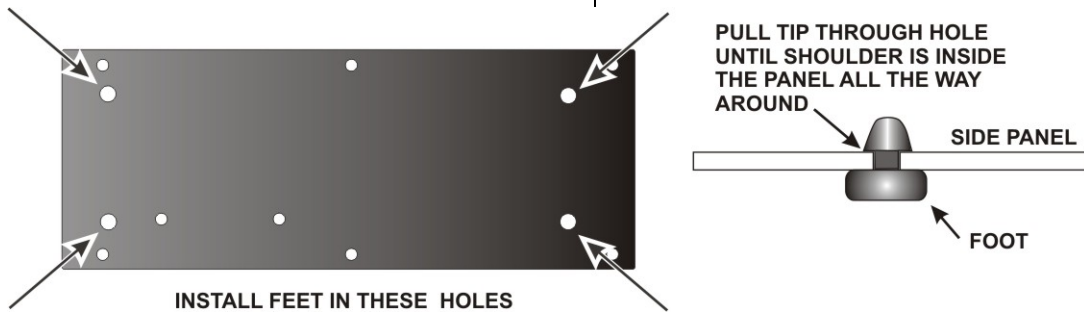

Figure 21. Installing Side Panel Feet.
- Locate the two side panels. They are approximately 4" (10 cm) by 9-7/8" (25 cm) in size. Both panels have six counter-sunk screw holes near the edges. Note that the countersunk holes are farther from one end than the other. This is important. You will need to orient the panels correctly as you install them. The side panels are different as well. In addition to the six counter-sunk screw holes, the left side panel has two holes near the centerline for attaching the handle and three larger counter-sunk holes near the top edge. The left side panel with the handle attached is shown in Figure 16. The right side panel has six additional holes; four for mounting the side feet and two for attaching other parts inside the K3 (see Figure 21). Set the right side panel aside for now.
□ Install the four rubber side feet in the holes in the right side panel as shown in Figure 21. Two suggested procedures for doing this are as follows: